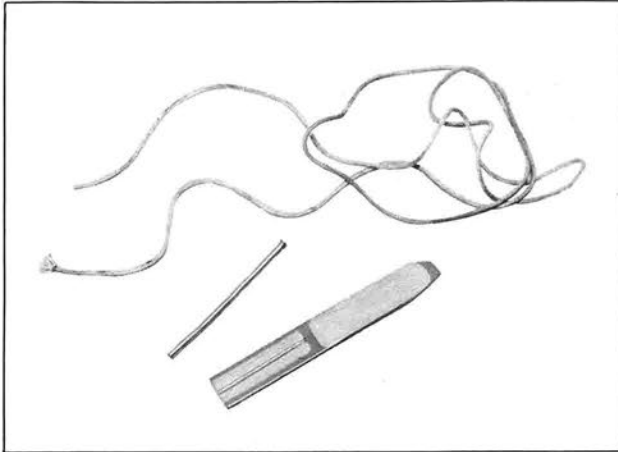

Fig. BF-15 Tools for installation of windshield glass
1. For the installation, use string and spatula shown in Figure BF-15.